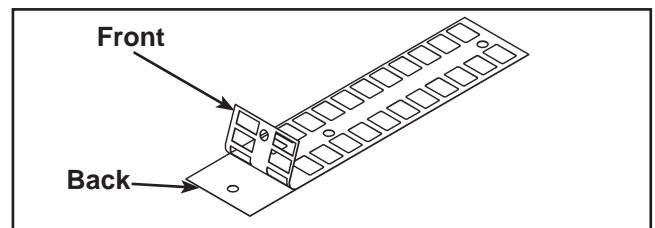

Figure 17
- A. Slowly and carefully peel off back side of decal. See Figure 17. **NOTE:** When peeling off back cover, make sure that the decals remain attached to the front sticker.